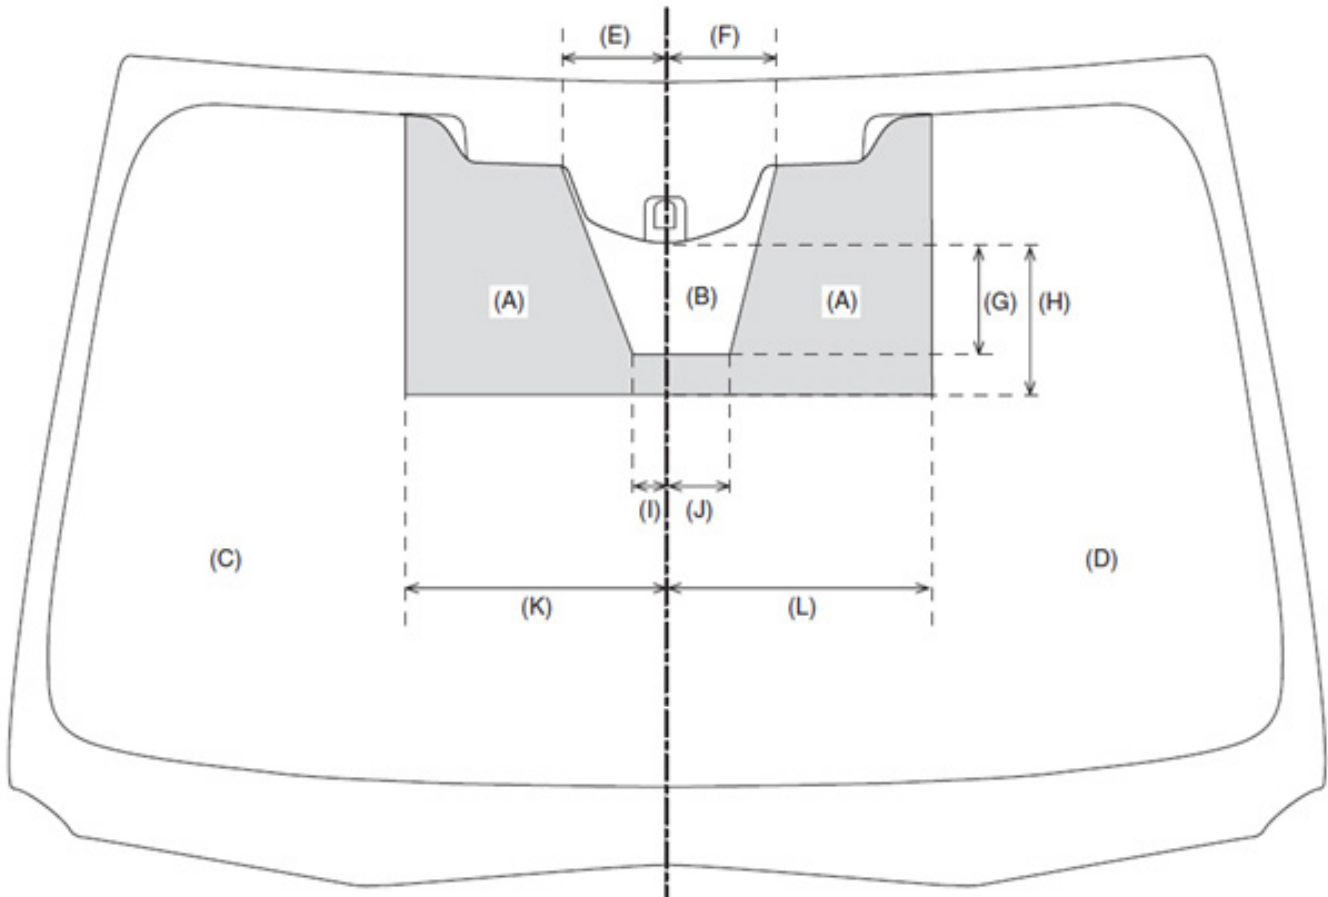

Figure1, Dimensional Overview
- Any damage in the glass repair prohibited (gray, “A” areas) shown in the Dimensional Overview (Fig 1) will require windshield replacement with ONLY a Genuine Subaru EyeSight windshield glass.
In the event you receive an EyeSight-equipped vehicle with repairable windshield damage, e.g., a stone chip, small crack or nick, etc. it is critical to understand NO repairs may be made to the glass if the damage is in the glass repair prohibited (gray, “A” areas) as shown in Figure 1. Damage and/or repairs in these areas shown on the Dimensional Overview are strictly prohibited as they can interfere with EyeSight’s stereo camera, compromising proper operation of the system.